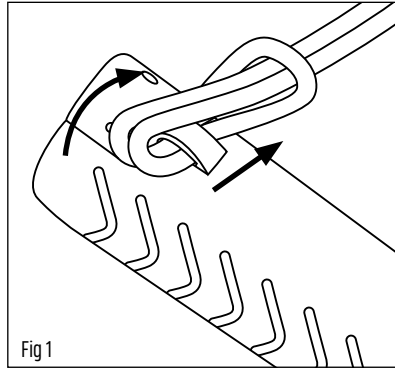

Fig 1
**1. ATTACHING LANYARD** - Insert the lanyard through the end opening of the LifeLite™ and loop through the opening and pull tight. (Fig 1)